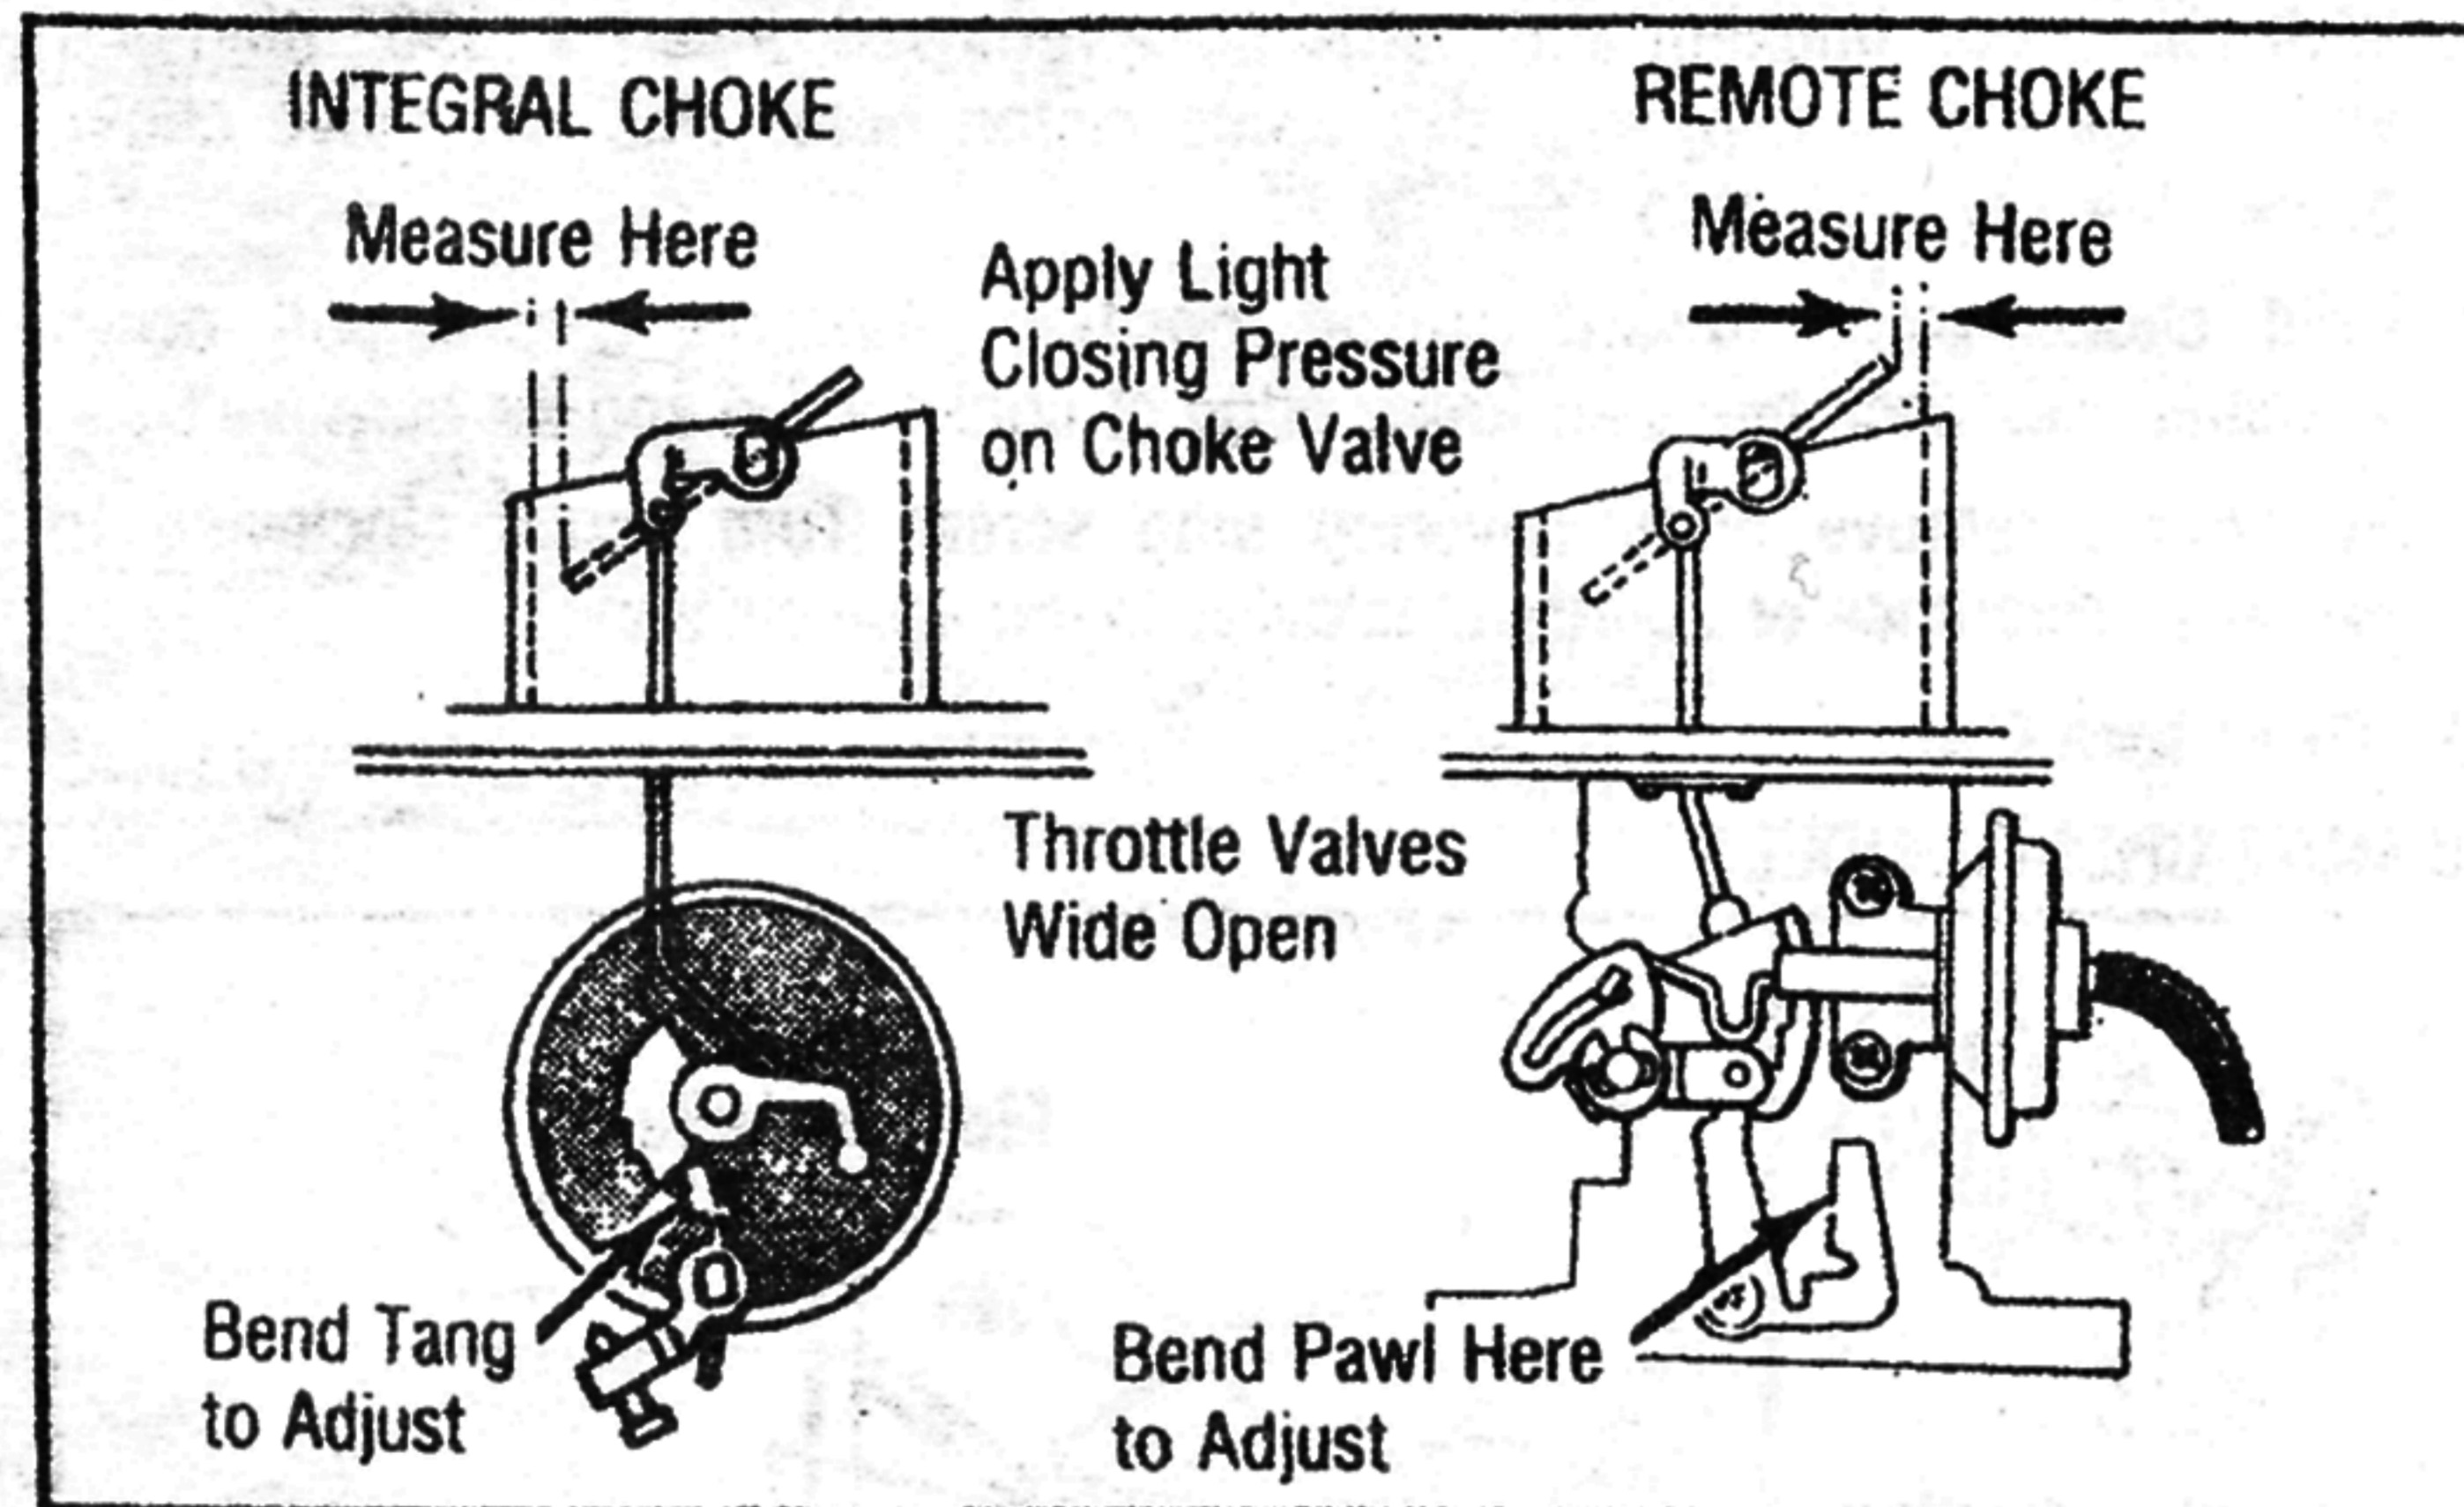

Fig. 14 Choke Unloader Adjustment
1. Hold throttle valves wide open. Apply light closing pressure on choke valve. See Fig. 14.